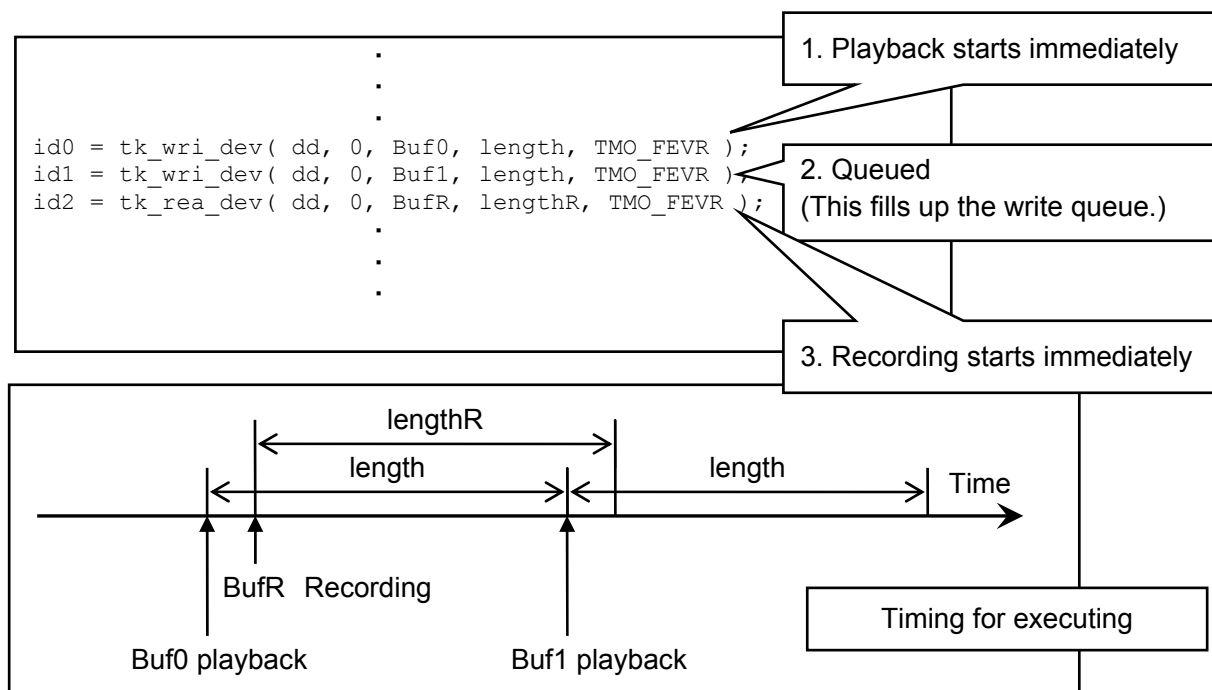

Figure 2. Asynchronous access requests and queuing
- Queuing is enabled up to AUDIO_MAXREQQ times for read and write in asynchronous access requests to device-specific data. In other words, if AUDIO_MAXREQQ=2, even when the queue becomes full of write requests as depicted in Figure 2, if read requests are issued the driver must receive them without any wait. This is not required, however, if the hardware does not support full-duplex operation.